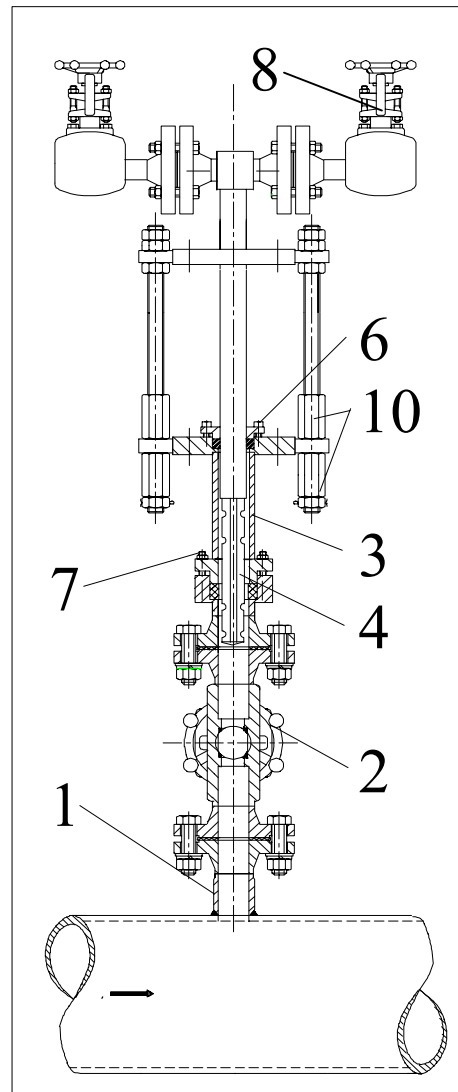

Fig. 14: Sensorprofile in retract position type FTHD
5. Inspect the packing gland for evidence of leakage, if available screw down screws and nuts {6+7}. If the unit was ordered with high-temperature gland, additional adjustment may be required at this time. (Fig14)
3. Retract the Flo-Tap by rotating the drive nuts {10} clockwise as viewed from the top, using ratched wrench. The nuts must be turned alternately, about two turns a time, to prevent binding resulting from unequal loading. Continue this procedure until the probe is fully retracted as shown in Fig. 14.